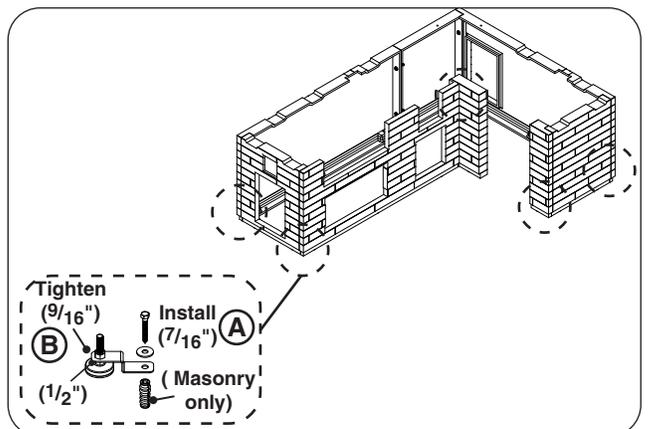

Fig. 14-4 Mount island
1. Secure the island to the floor using the 5 pre-installed mounting brackets. Use a  $\frac{7}{16}$ " open end wrench and the supplied mounting hardware as appropriate. See Fig. 14-4, A.
Finish by tightening down the brackets. Hold a leveler in place (below bracket) with a  $\frac{1}{2}$ " open end wrench, and tighten the nut (above bracket) using a  $\frac{9}{16}$ " open end wrench. See Fig. 14-4, B.